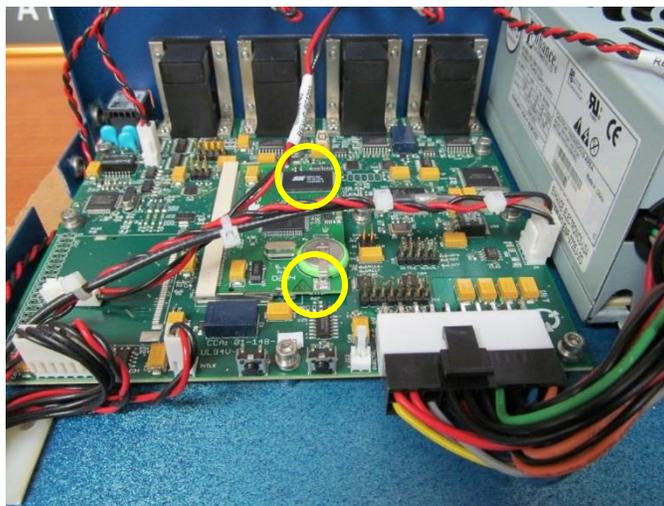

Figure 3: TINI Card Clip Locations
12. Reseat the TINI circuit board by gently pressing the outward on the retaining clips to release the board (**Figure 3**) and then reinstalling.